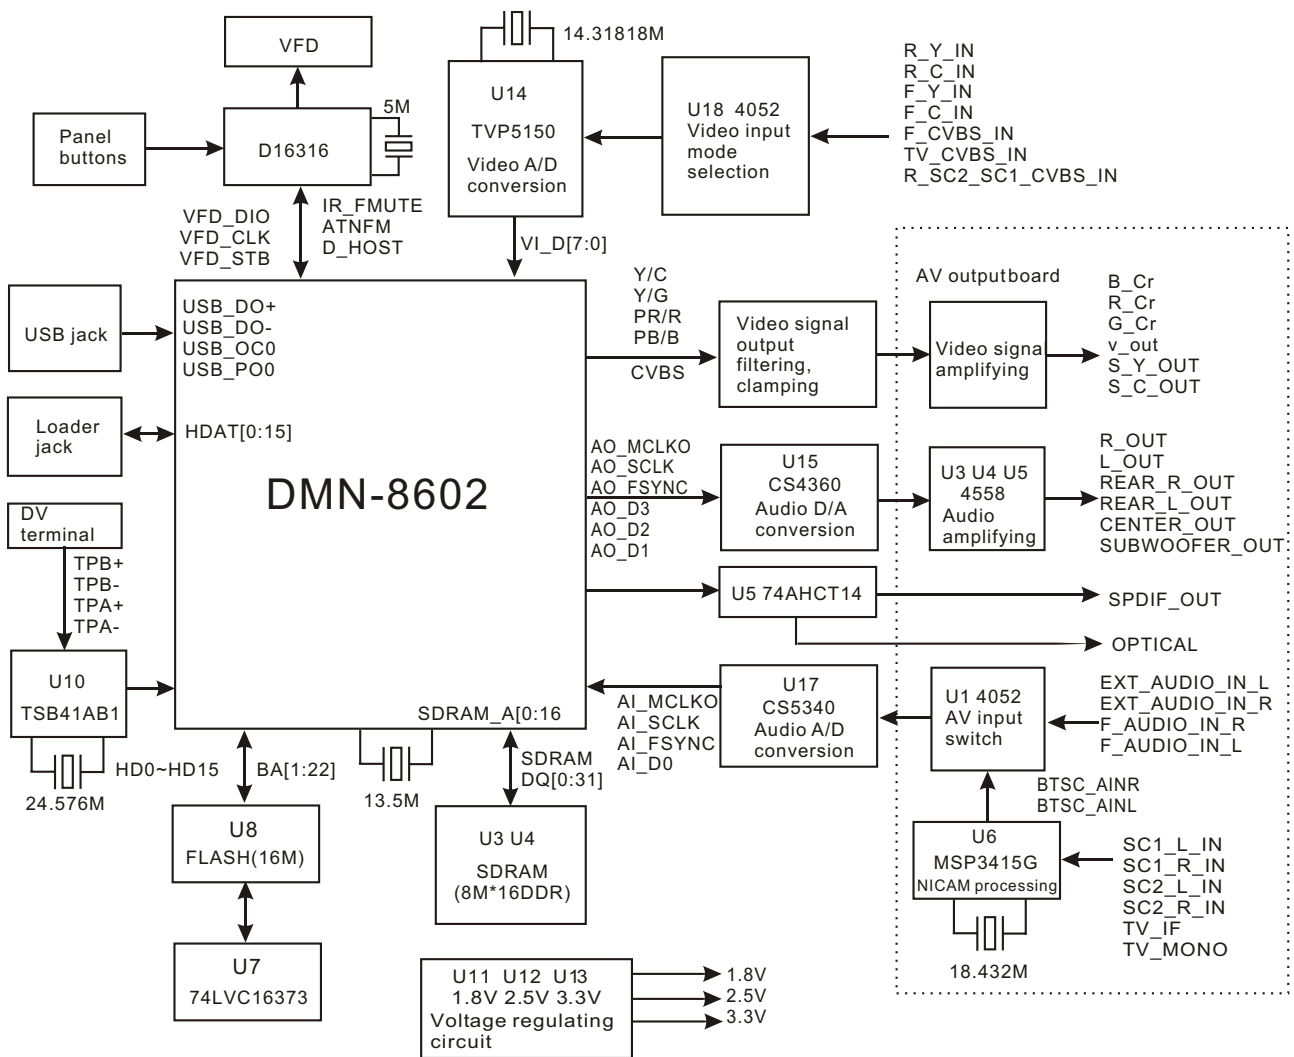

Figure 3.2.1.1 System control and code, decode circuit block diagram
1. This layer adopts the single-chip processor DMN-8602 of recordable DVD products used for single drive of the second generation of LSI Logic Company. The single chip includes a 2nd-generation DV coder, 5th-generation coder, USB controller, shown in the figure 3.2.1.1, NTSC/PAL TV coder and